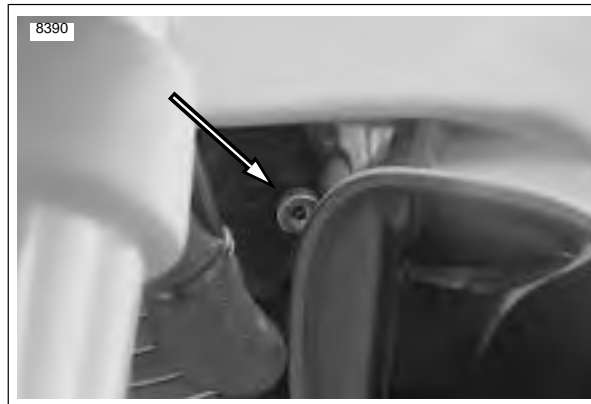

Figure 1-58. Idle Adjuster (behind left fork)
5. See Figure 1-58. Back off idle adjustment until TP volts stop decreasing and then continue to back out one full turn.